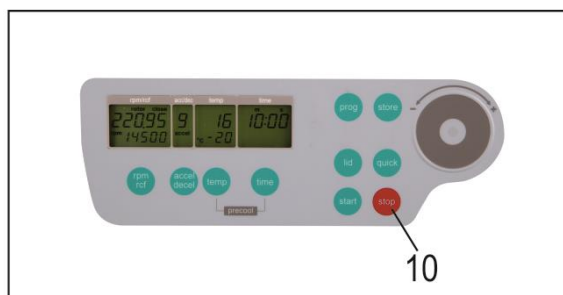

Figure 28
For all number marked text, please refer to Figure 28.
With the "stop" key (10), the run time can be interrupted, at any time, (see Figure 28). After pressing the key, the centrifuge decelerates with the respective pre-selected intensity, down to a standstill.